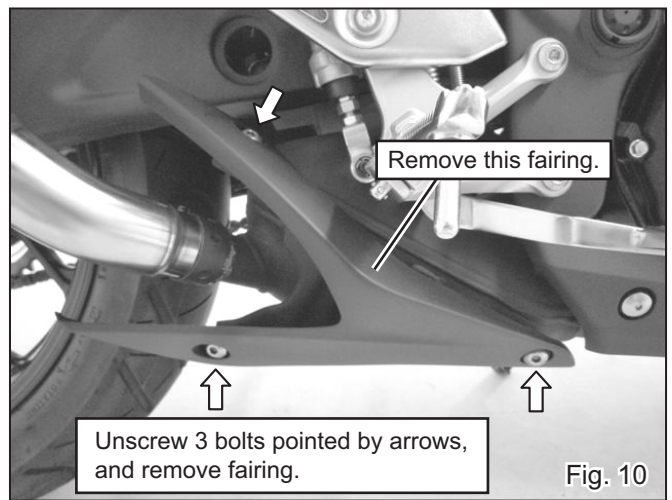

Fig. 10
- 9) Check from back and adjust cleaners between Yoshimura slip-on and other components such as swing arm. Tighten and torque clamp band, Button Bolt M6x15 and bolt on stock silencer bracket in the order (See Fig. 10 & 11 on next page).
10) Remove fairing under right front footpeg (See Fig. 10).